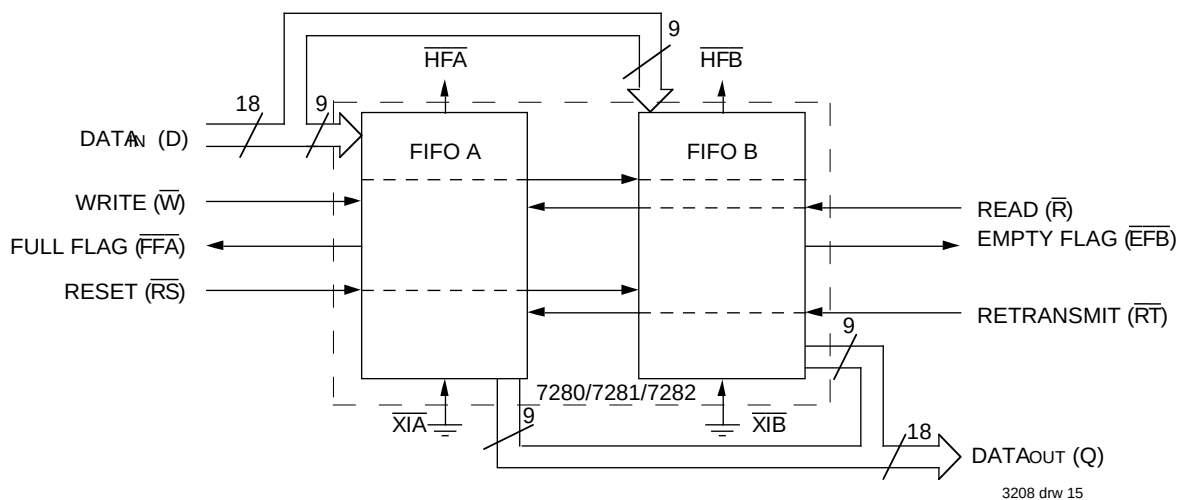

Figure 13. Block Diagram of 256/512/1024 x 18 FIFO Memory Used in Width Expansion Mode
flags ($\overline{EF}$, $\overline{FF}$ and $\overline{HF}$) can be detected from any one FIFO. Figure 13 demonstrates an 18-bit word width by using the two FIFOs contained in the IDT7280/7281/7282s. Any word width can be attained by adding FIFOs (Figure 13).
2. For Flag detection see section on Width Expansion and Figure 13.